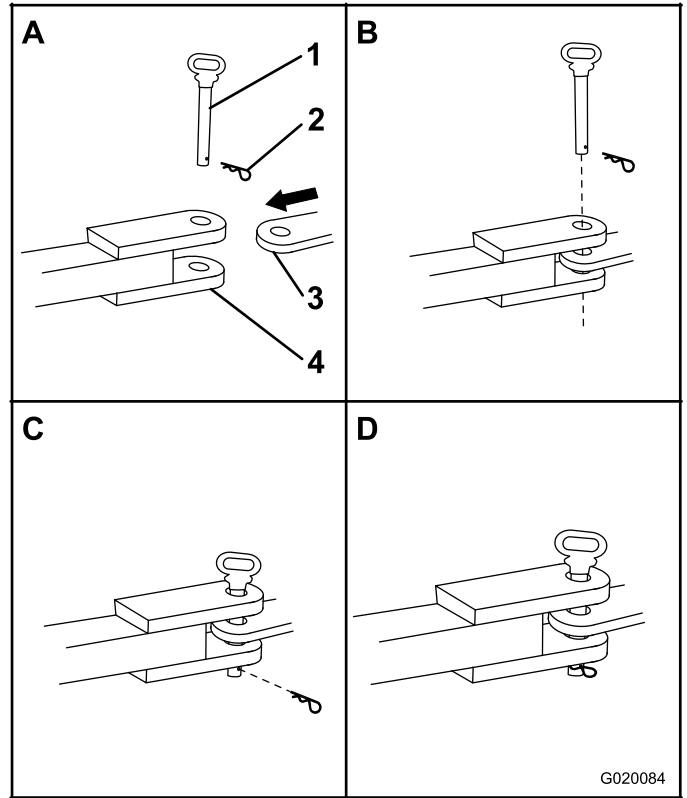

Figure 25
1. Position the front of the pin hitch coupler so that it is located between the top and bottom plates of the pin/clevis hitch of the tow vehicle, and ensure that the holes are aligned (Figure 25).
2. Insert a 19 mm (3/4 inch) or 22 mm (7/8 inch) hitch pin through the holes in the coupler and the receiver hitch (Figure 25).
3. Insert a hairpin cotter through the hole in the bottom of the hitch pin (Figure 25).